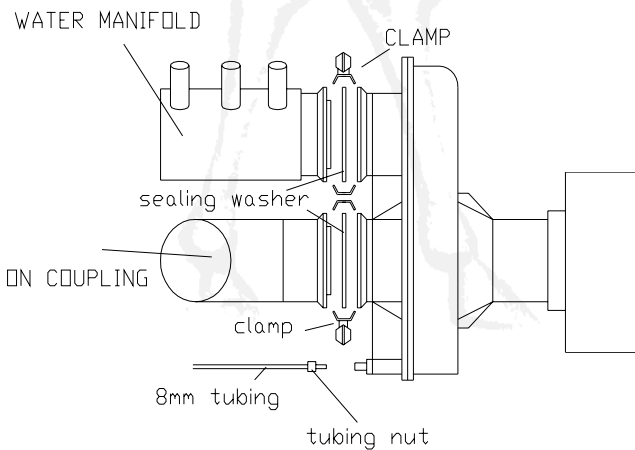

FIG 6
- b) Fit it to the pump using tubing provided. *See Fig. 6.*